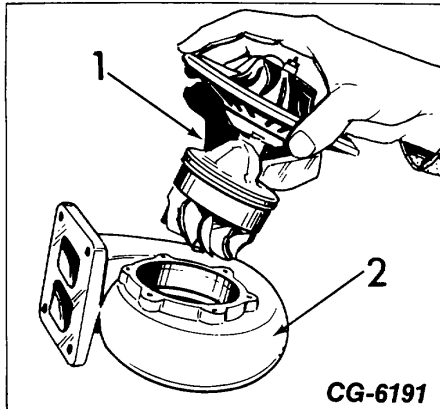

Figure 6. - Installation of Core Assembly Into Housing
1. Carefully Install the turbine end of the core assembly Into the Turbine Housing (1, Fig 6). (with nozzle ring if so equipped).